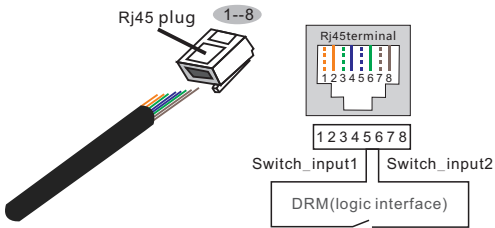

Figure 4.7 Strip the insulation layer and connect to RJ45 plug
- 2.Use the network wire stripper to strip the insulation layer of the communication cable. According to the standard line sequence of figure 4.7 connect the wire to the plug of RJ45, and then use a network cable crimping tool to make it tight.